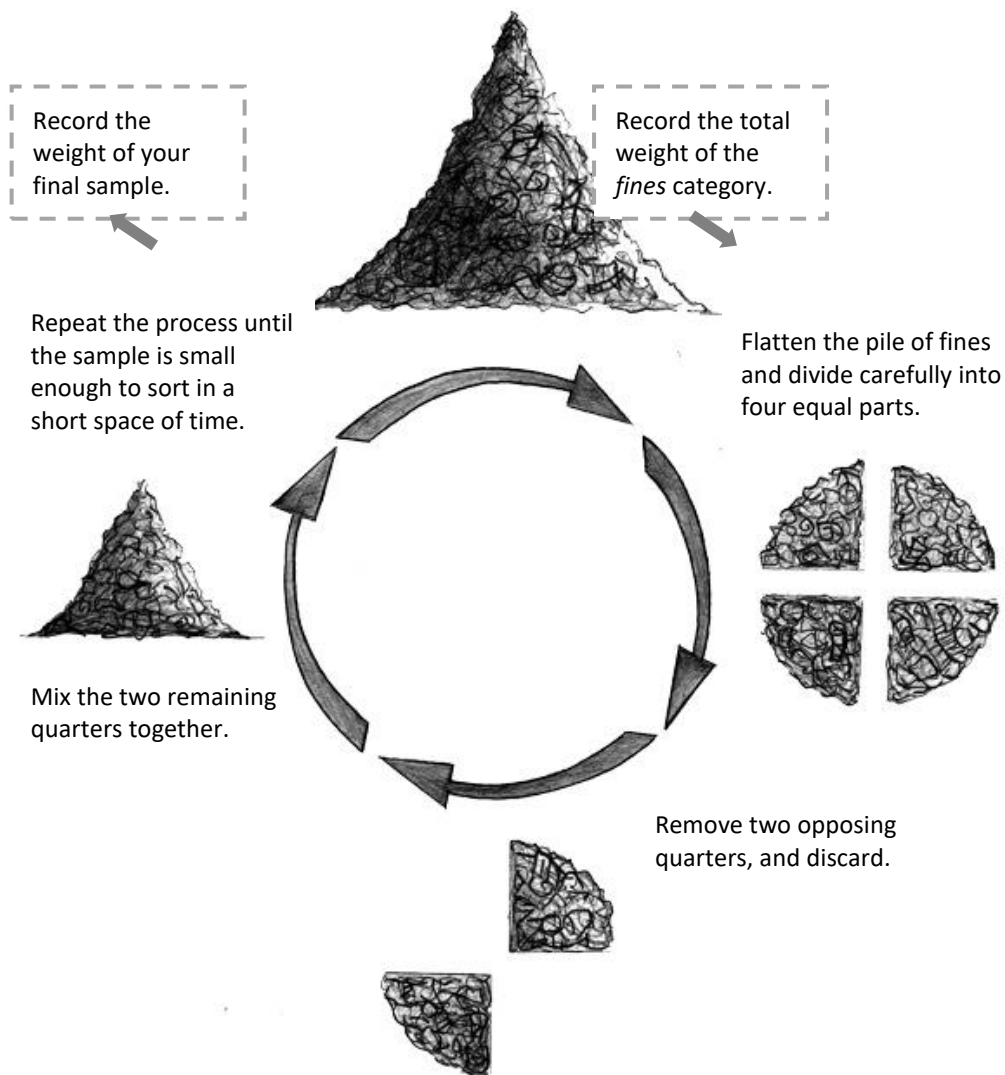

Figure 1-10: How to produce a small and representative sample of fines.
9. Sort all the waste until the largest item you have left is around 1 cm. The pieces that are smaller than 1 cm are called *fines*. These will take a long time to sort, so it helps to work with a smaller, representative amount, and then multiply the results back up to give an estimate of the total. To produce a small representative sample size, follow the steps below and in Figure 1-10.